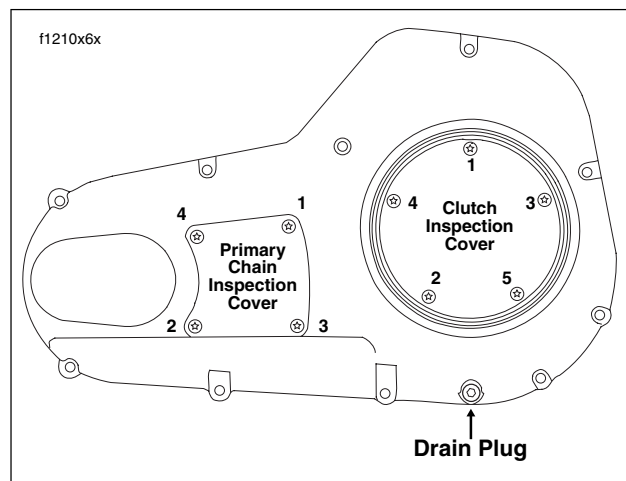

Figure 1-3. Primary Chaincase Cover
3. See Figure 1-3. Using a T27 TORX drive head, remove four screws to free the primary chain inspection cover from the primary chaincase cover.
7. Align holes in **new** gasket with holes in the primary chaincase cover. Using a T27 TORX drive head, install four screws to secure primary chain inspection cover to primary chaincase cover. Alternately tighten screws to 84-108 **in-lbs** (10-12 Nm) in a crosswise pattern. See Figure 1-3.
2. Remove magnetic drain plug at bottom of primary chaincase cover. Drain lubricant into suitable container. See Figure 1-3.
9. Using a T27 TORX drive head, install five screws (with captive washers) to secure clutch inspection cover to the primary chaincase cover. Alternately tighten screws to 84-108 in-lbs (10-12 Nm) in the pattern shown in Figure 1-3.
11. Using a T27 TORX drive head, install five screws (with captive washers) to secure clutch inspection cover to the primary chaincase cover. Alternately tighten screws to 84-108 **in-lbs** (10-12 Nm) in the pattern shown in Figure 1-3.